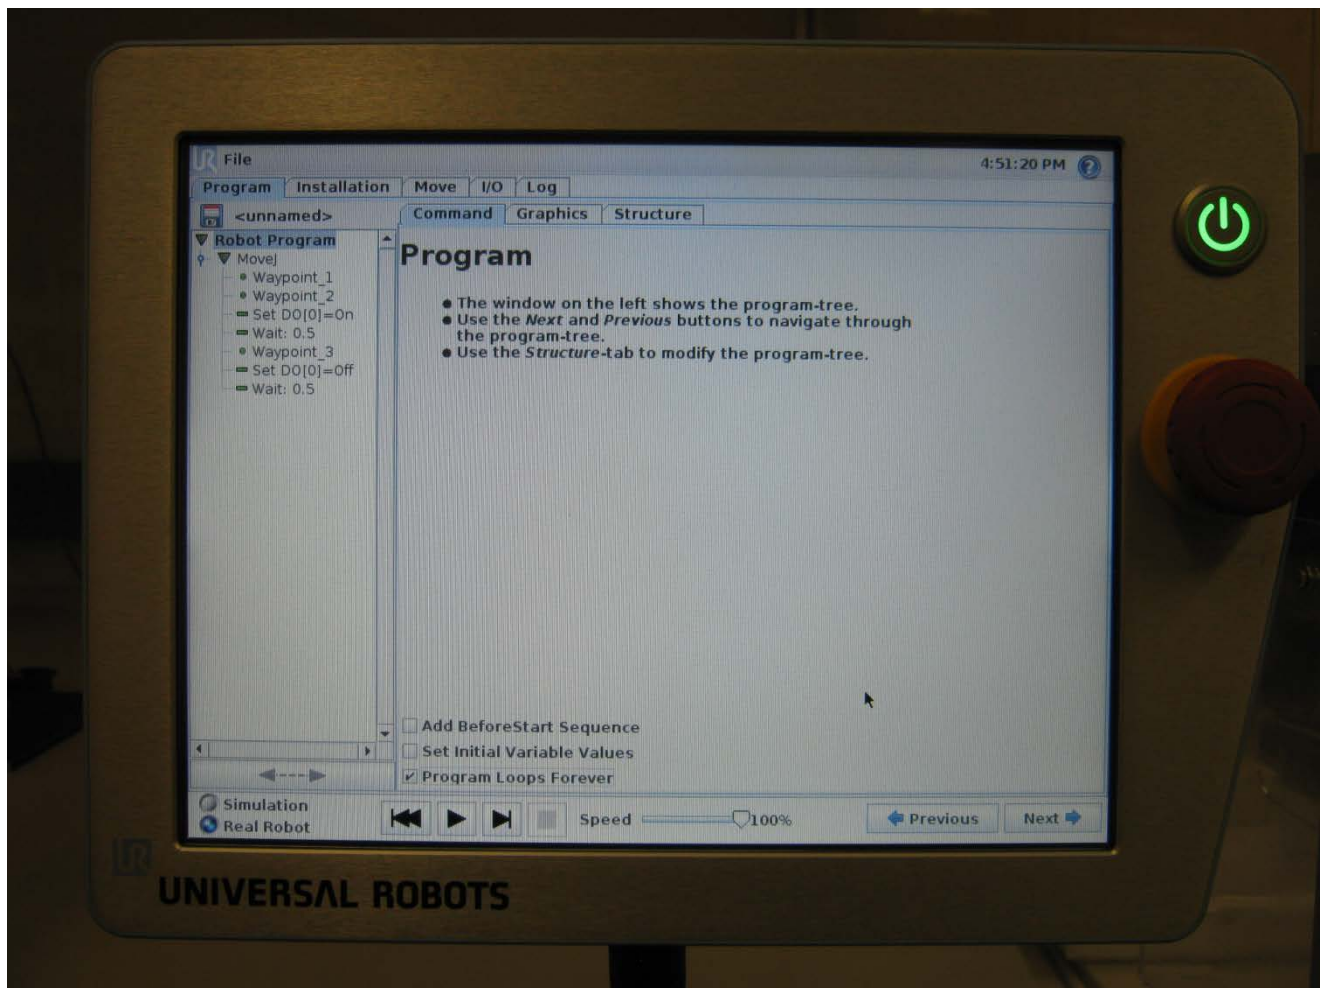

Figure 16 The Command tab for the Robot Program with a completed program
- 18.** You should have a program that looks similar to the one in Figure 16.
22. To have the robot execute the command only once, select “Robot Program” from the program in the left hand panel (see Figure 16). Then press the Command tab.